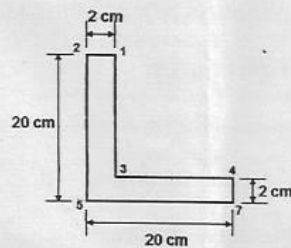

Fig.1
11. (a) A thin walled section shown in Fig.1 is subjected to $M_x = 1500 \text{ N-m}$ and $M_y = 500 \text{ N-m}$ where X and Y are centroidal axes of the section. Determine the bending stresses at the indicated points using k-method.